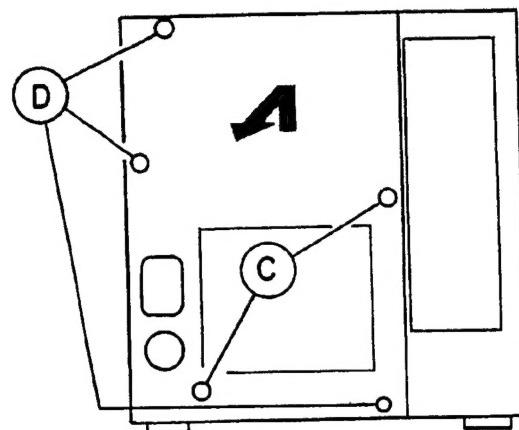

Fig. 2
- (1) Remove the top cover.
- (2) Remove the 2 screws Ⓑ shown in Fig. 2.
- (3) Loosen the 3 screws Ⓒ .
- (4) Slightly slide the rear cover in the direction of the arrow and remove it.